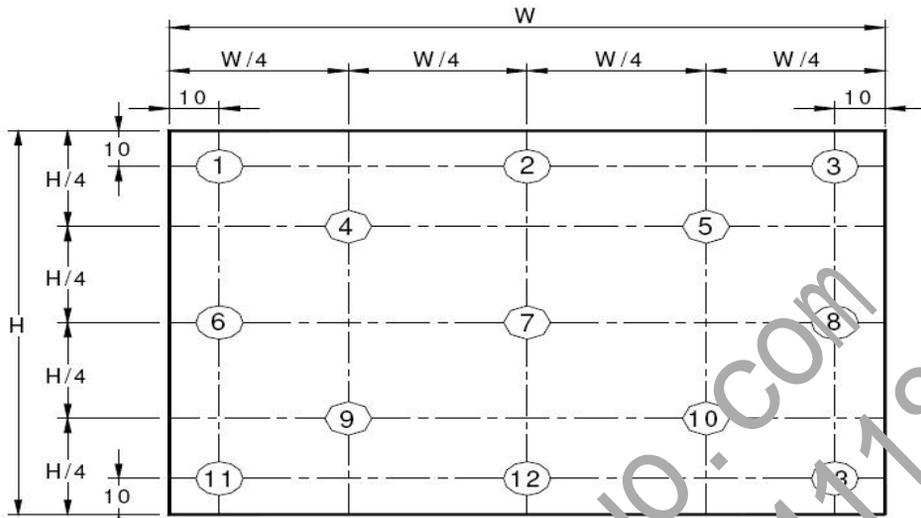

Figure 9. Uniformity Measurement Locations (13 points)
- The White luminance uniformity on LCD surface is then expressed as :  $\Delta Y = \text{Minimum Luminance of 5(or 13) points} / \text{Maximum Luminance of 5(or 13) points.}$ (see Figure 8 and Figure 9).
The White luminance uniformity on LCD surface is then expressed as :  $\Delta Y5$  = Minimum Luminance of five points / Maximum Luminance of five points (see Figure 8) ,  $\Delta Y13$  = Minimum Luminance of 13 points / Maximum Luminance of 13 points (see Figure 9)